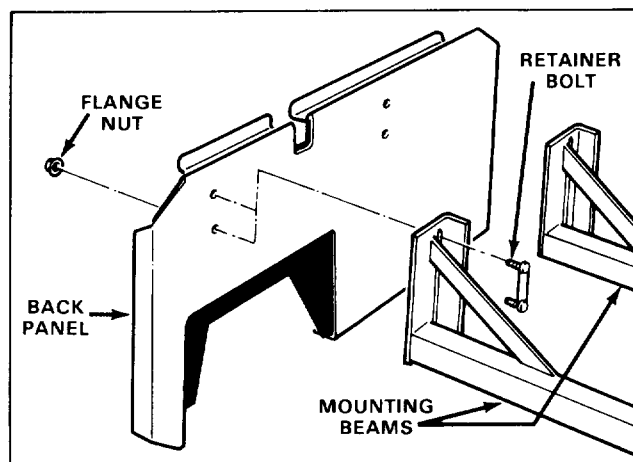

Figure 2
1. Secure mounting beams to back panel with retainer bolts and  $3/8$ -16 flange nuts. Top of beam brackets should be flush with top of back panels (Fig. 2).